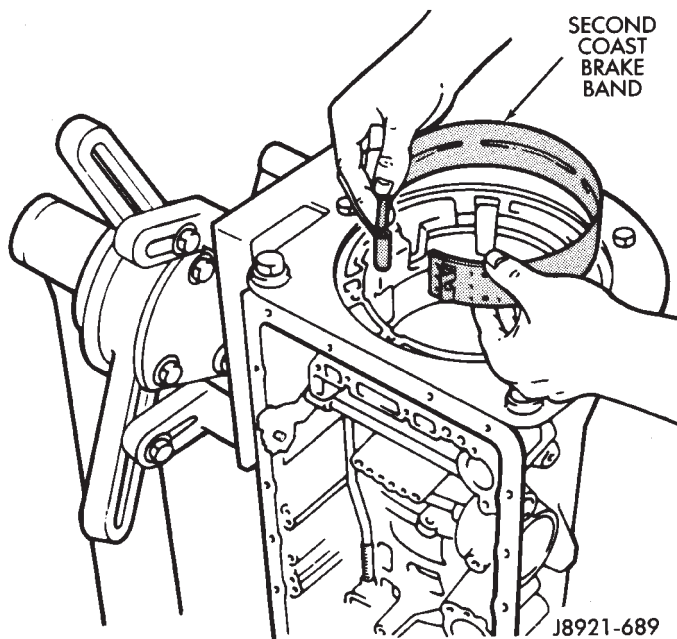

Fig. 144 Installing Second Coast Brake Band
(37) Install second coast brake band (Fig. 144).